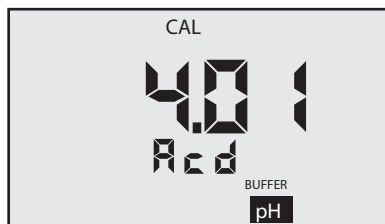

Figure 6
2. At this point the “**CAL**”, “**BUFFER**” and “**Acd**” or “**bAS**” annunciators will be displayed (see Figures 6 and 7).